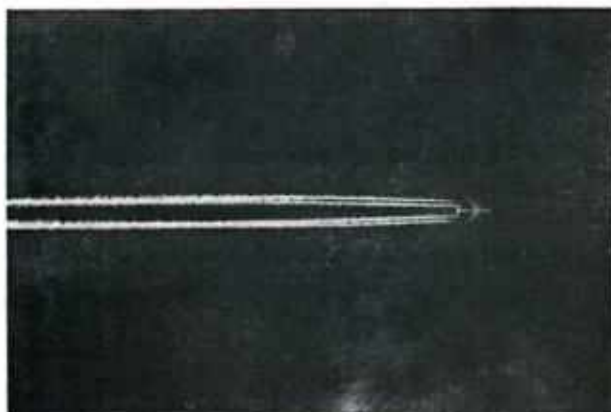

Fig. 7.15: Contrail
- b. The contrail is also an example of condensation. When an airplane flies at very high altitude the water vapours from its exhaust enter into the cold atmosphere where due to low temperature, they condensate into liquid and then into ice crystals. This process makes lines of ice or cloud like behind the airplane which are called as contrails as shown in figure 7.15.